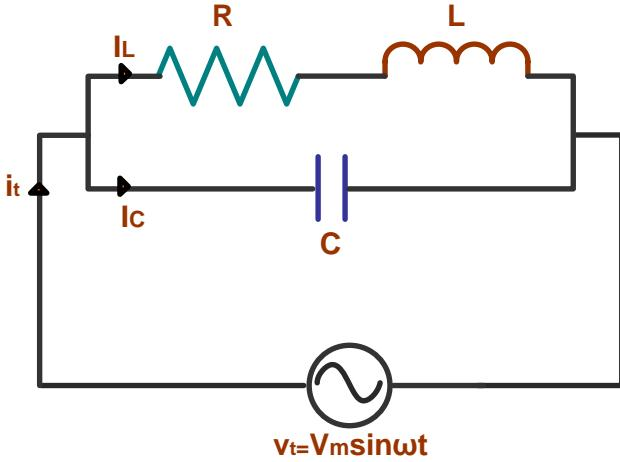

Figure 2.41 Circuit Diagram of Parallel Resonance RLC Circuit
- Fig. 2.41 Shows a parallel circuit consisting of an inductive coil with internal resistance  $R$  ohm and inductance  $L$  henry in parallel with capacitor  $C$  farads.